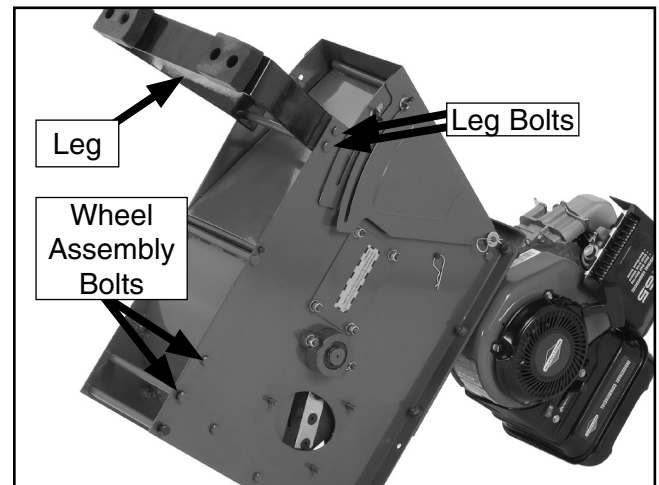

Figure 4. Attaching the leg.
1. Tip the chipper/shredder over and remove the four bolts shown in **Figure 4**. DO NOT turn the chipper/shredder over once it is full of oil and gas. The oil and gas will spill out.